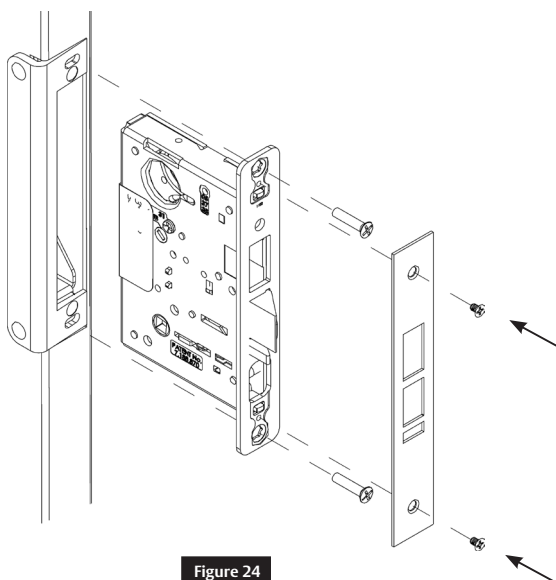

Figure 24
3. Install mortise lock, two (2) #12-24 x1" flat head mounting screws, outside front, and two (2) #8-32 x1/4" flat head screws. (Figure 24)